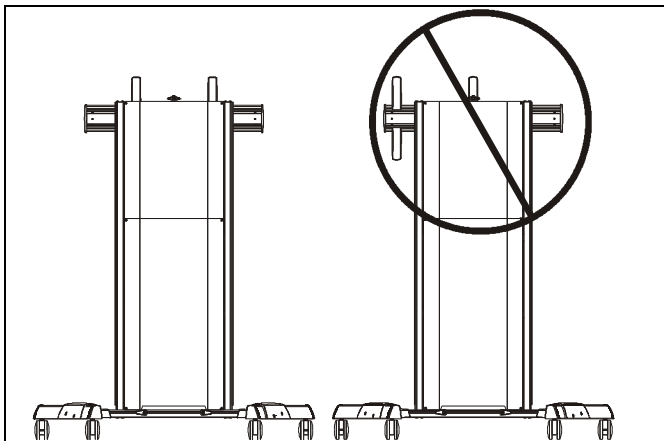

Figure 5
**IMPORTANT !:** In order to ensure an even mount, install uprights to be centered over column assembly. Do NOT install both uprights to the same side of column assembly! (See Figure 5)